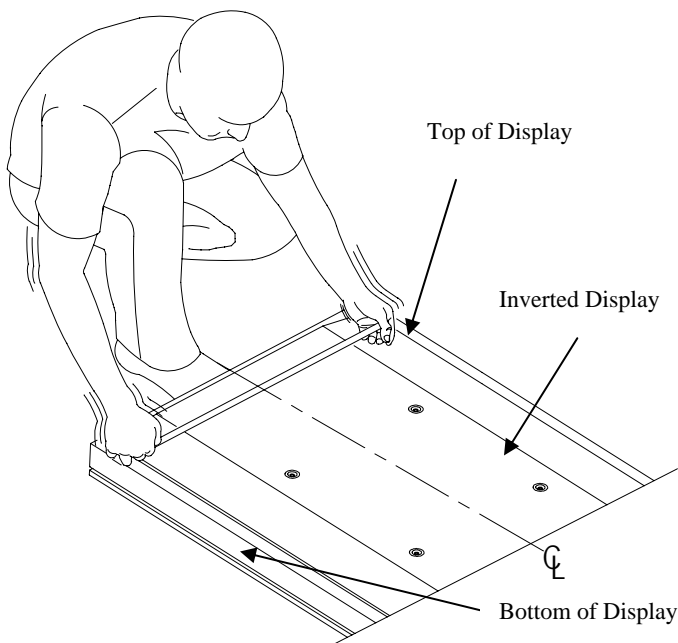

Figure 1. Flat Panel Mount Location
1. Once the flat panel is inverted, use a measuring tape to find the center of your flat panel measuring from outside to outside of the chassis (Figure 1).